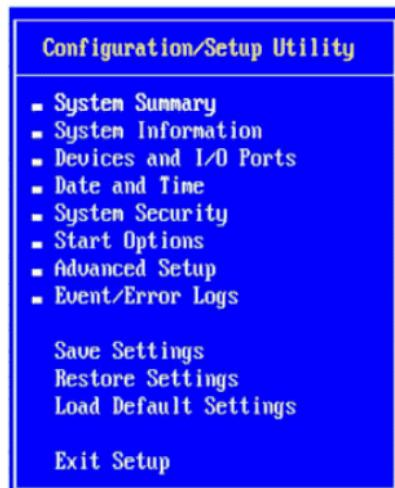

Figure 18-34 Selecting Start Options in Configuration/Setup Utility panel
3. Select **Start Options** as shown in Figure 18-34.